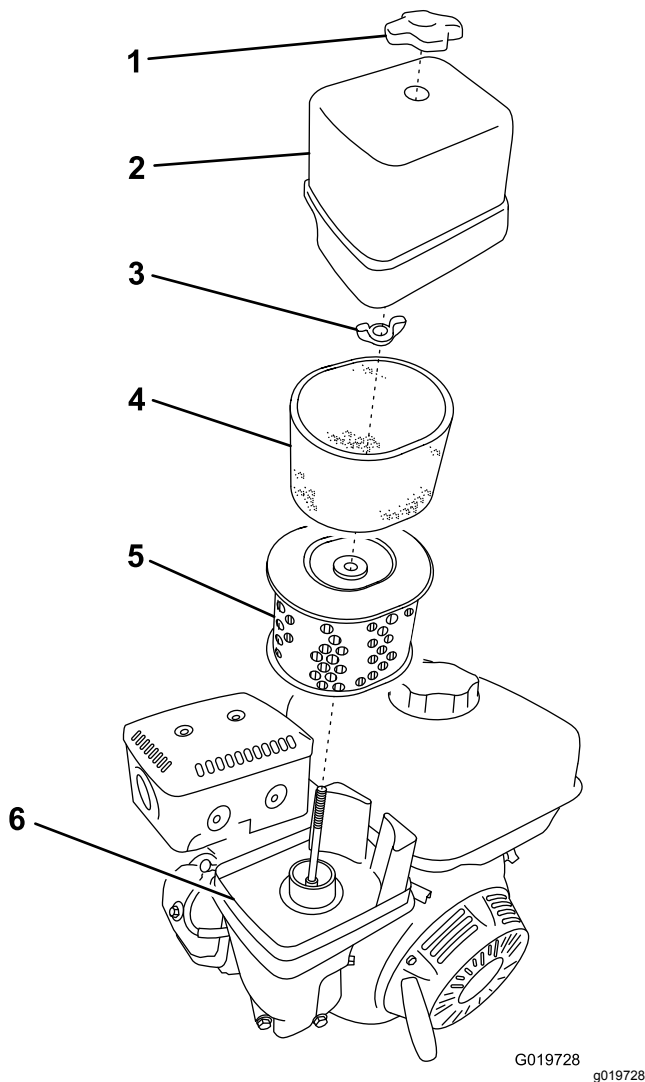

Figure 22
3. Remove the nut that secures the cover (Figure 22).
5. Remove the foam and paper elements from the base (Figure 22).
6. Remove the foam element from the paper element (Figure 22).